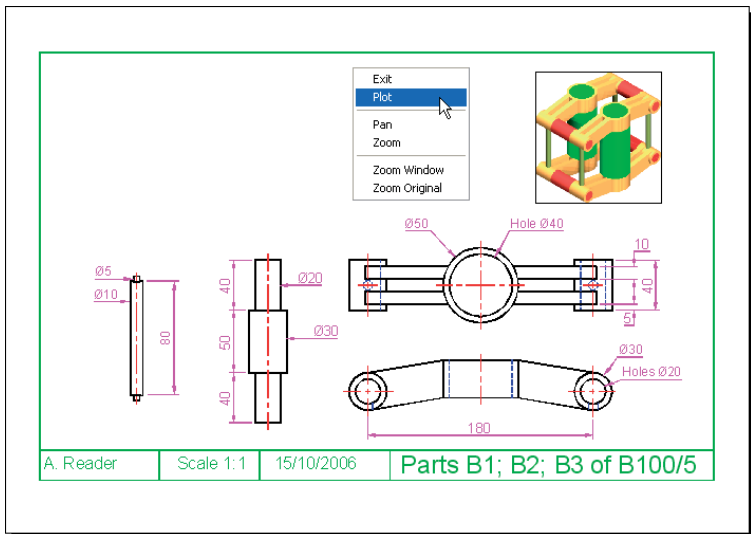

Fig. A.7 The **Plot Preview** window with its *right-click* menu
4. A preview of the drawing to be printed/plotted appears (Fig. A.7). If satisfied with the preview, *right-click* and in the menu which appears *click* **Plot**. If not satisfied *click* **Exit**. The preview disappears and the **Plot** dialog reappears. Make changes as required from an inspection of the preview and carry on in this manner until a plot can be made.